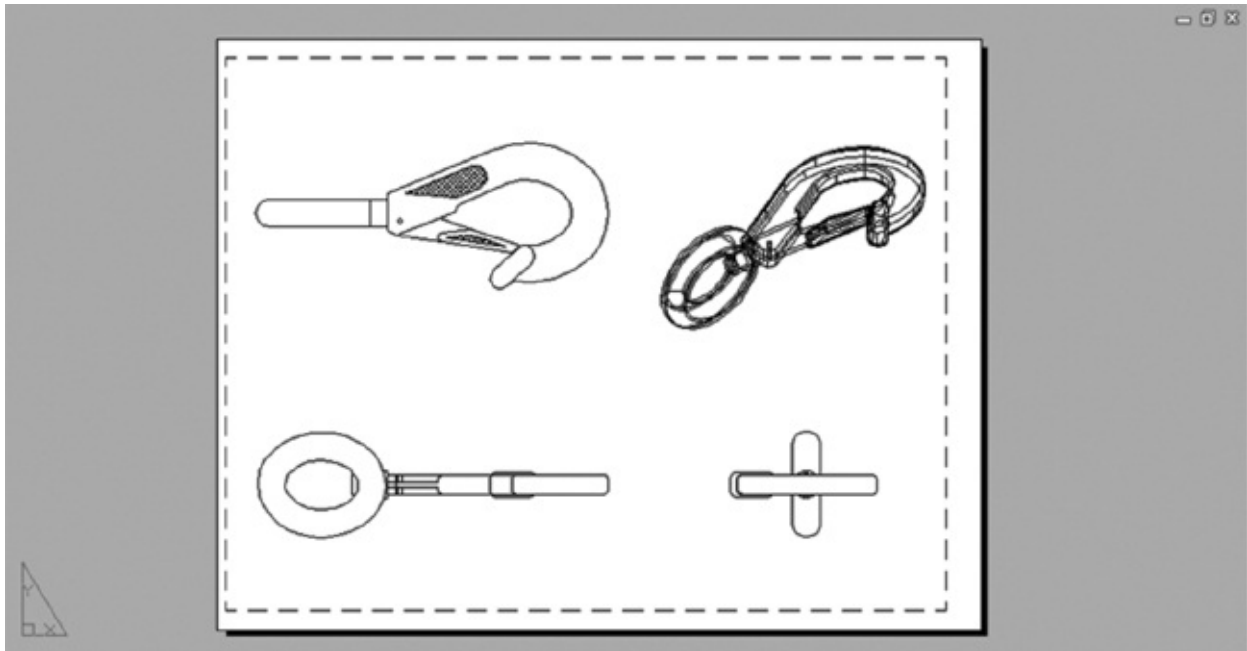

FIGURE 1.15 The Layout1 view of the clip.dwg file
5. Click the Open button at the bottom of the Select File dialog box. AutoCAD opens the `clip.dwg` file, as shown in Figure 1.15.